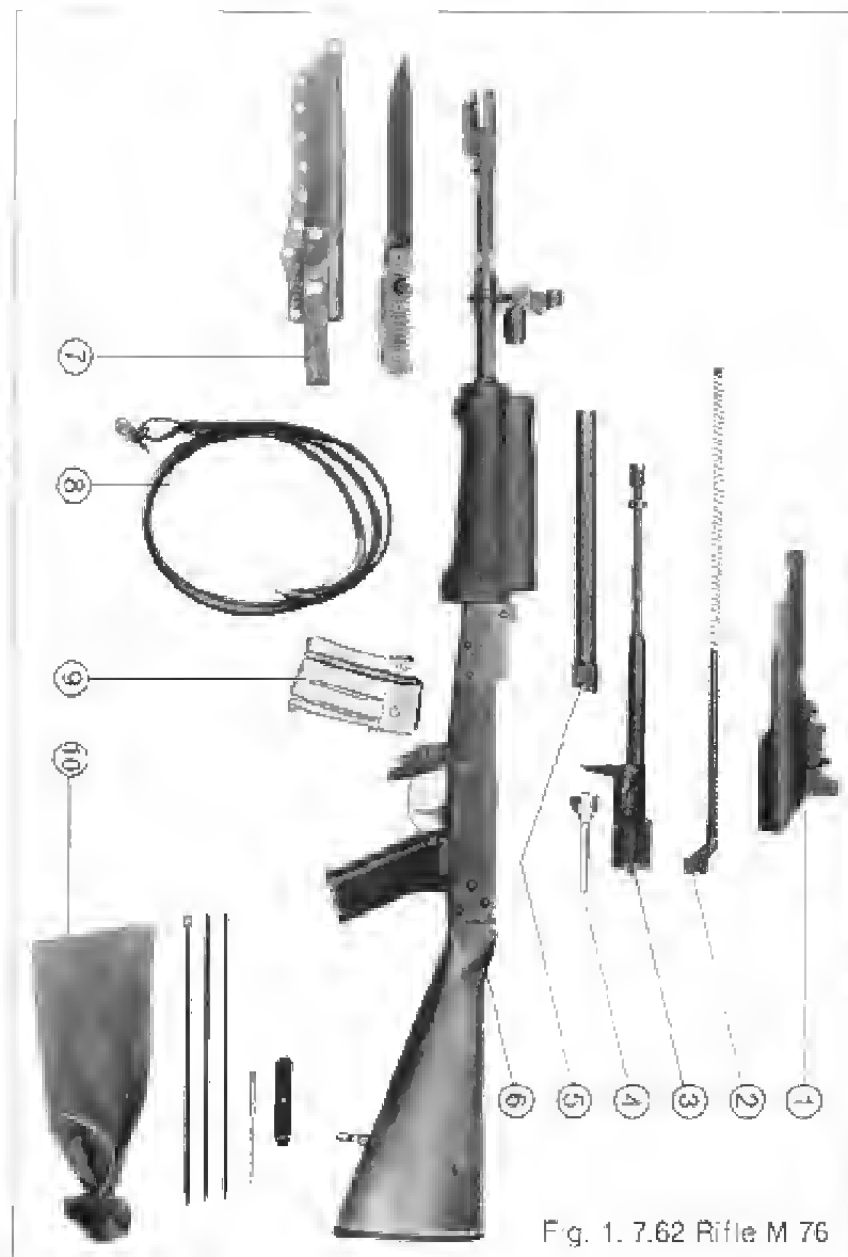

Fig. 1. 7.62 Rifle M 76
2. The main components of the rifle are: (Fig. 1)